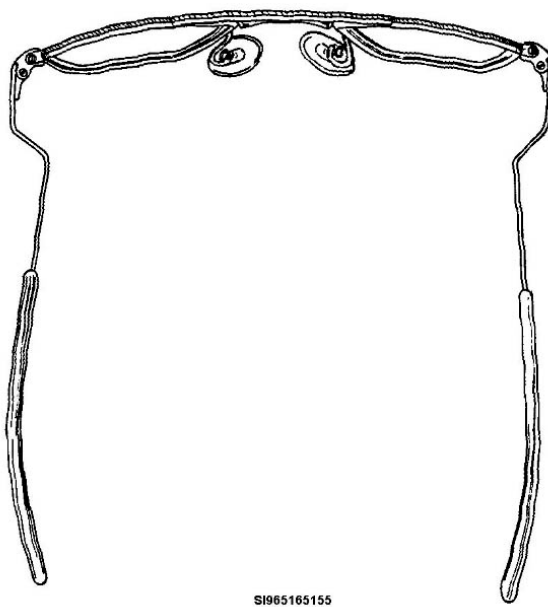

Figure 3-72. AFF modified for use in the full-pressure-suit helmet.
1. At approximately $\frac{1}{2}$ inch from the butt of each temple, make a bend *inward* at an angle of about a 45° (fig. 3-72).
2. At approximately $\frac{1}{2}$ inch from the first bend, make a bend outward at an angle of about a 45° (fig. 3-72).